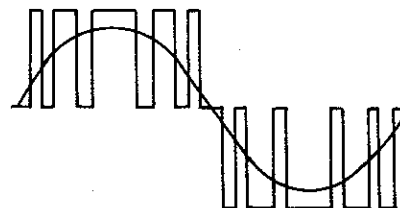

Fig. 4-2
P.W.M. (Pulse Width Modulated) inverters change the incoming power to D.C. and then pulse the D.C. into the motor leads to simulate A.C. Figure 4-2 shows a representation of the Toshiba output voltage waveform.